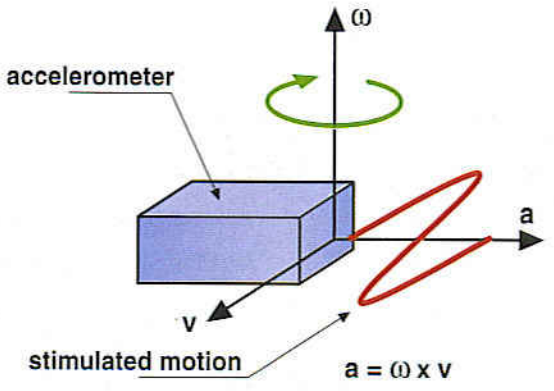

Figure 4. The principle of the vibration gyro (Picture: IMAR Navigation)
- The **vibrating gyroscope** (The word gyro here simply indicates that the device senses rate of turn, it does not imply that the device contains a rotating mass like a traditional gyroscope) uses the mechanical Coriolis force (a) experienced by a vibrating mass that is rotated (ω) in a plane orthogonal to its plane of vibration (v) (see **Figure 4**). A piezo harmonic vibrator or capacitive driver produces the moving mass. This type of gyro is often used in low-cost non-critical applications. It has a poorer performance compared with laser gyro particularly in terms of its noise, sensitivity to mechanical vibration and its temperature dependant output drift ($3^\circ/s$).